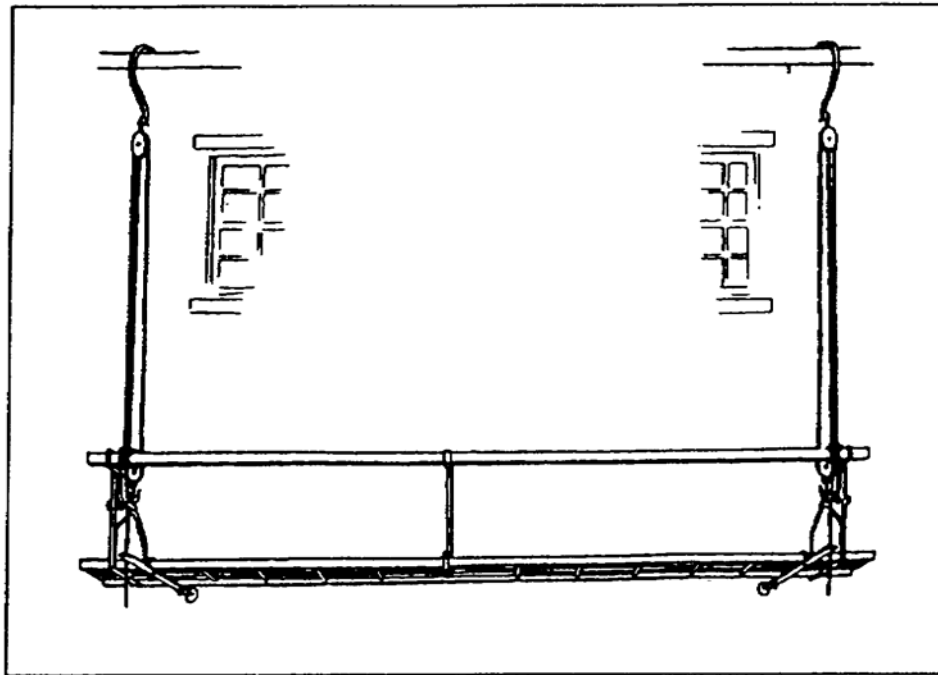

Figure 1-16. Swinging scaffold with ladder (platform type)
d. Swinging Scaffolds and Boatswain's Chairs. The following safety rules apply to setting up and using swinging scaffolds and boatswain's chairs (Figures 1-16 through 1-18, pages 1-21 and 1-22). You should-